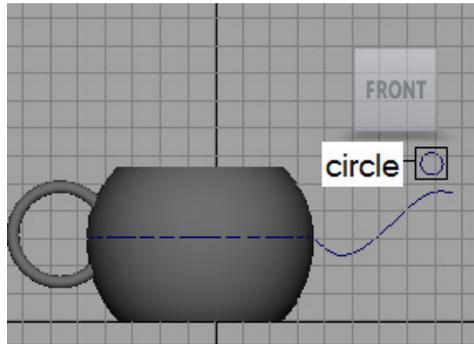

Figure 3-72 A circle created in the front viewport
- Choose **Create > NURBS Primitives > Circle** from the menubar and click in the front viewport; a circle is created in the viewport. Make sure the circle is selected in the viewport. In the **Channel Box / Layer Editor**, expand the **makeNurbCircle3** node in the **INPUTS** area and enter **0.4** in the **Radius** edit box and **90** in the **Rotate X** edit box; the circle is rotated in the front viewport, as shown in Figure 3-72.